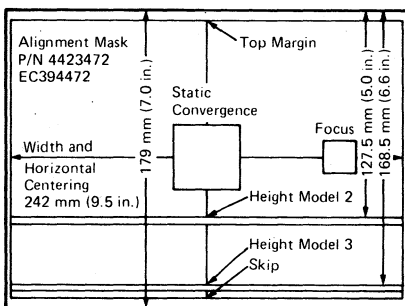

Figure 5-3. CRT Alignment Mask
4. Attach the alignment mask (Figure 5-3) to the CRT face.